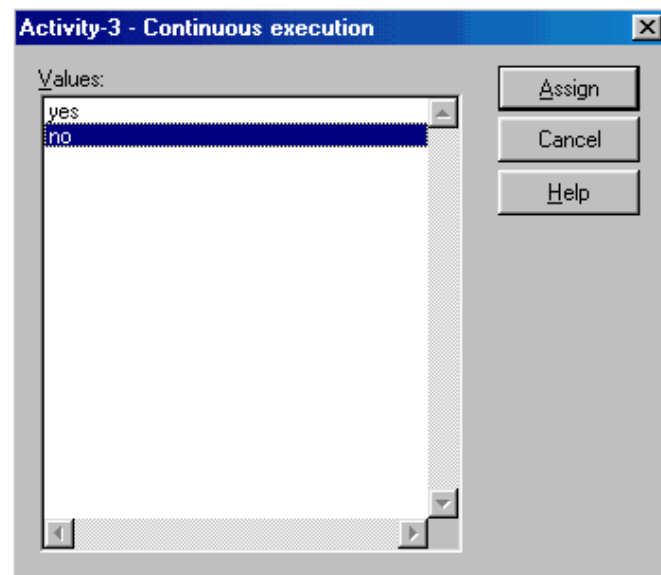

Figure 179: Enumeration
When double-clicking on an attribute of the type "Enumeration" (see chap. 7.2, p. 733) the window "<object name - attribute name>" (see fig. 179) containing the available attribute values will be displayed.
**Hint:** The window for the input of an enumeration value (see fig. 179) is only shown in the tabular display.